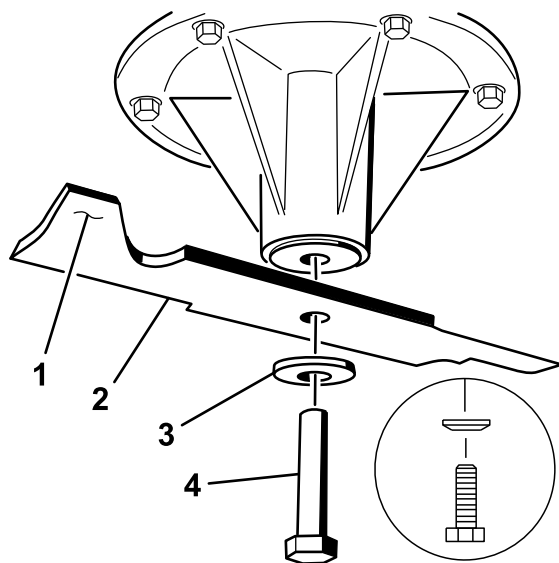

Figure 77
2. Install the blade onto the spindle shaft (Figure 77).
3. Install the curved washer and blade bolt (Figure 77).
Note: The curved washer cone must be installed toward the bolt head (Figure 77).